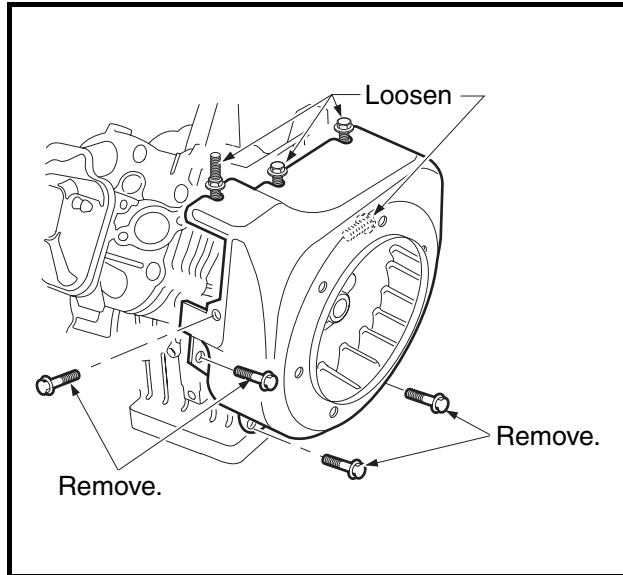

Figure 13-5 Flywheel Housing
2. Loosen three screws and remove the remaining four screws attaching the flywheel housing as shown, then remove the fan housing (**Figure 13-5, Page 13-8**).